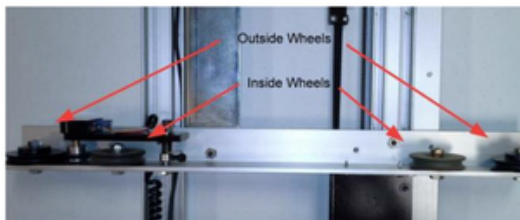

Fig. 6
- **Outside Rear wheels** - Remove existing outside rear wheels and hardware. Put the 1-1/4" bolt thru the hole in the cross-track, then put on a spring washer, and then the wheel and nut (figs 6 and 8).